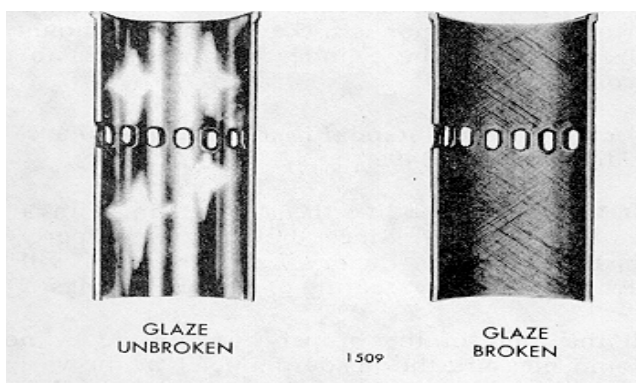

Fig. 9 - Glazed Surface of Cylinder Liner
1. To break the glaze (Fig. 9) which results after long periods of operation.